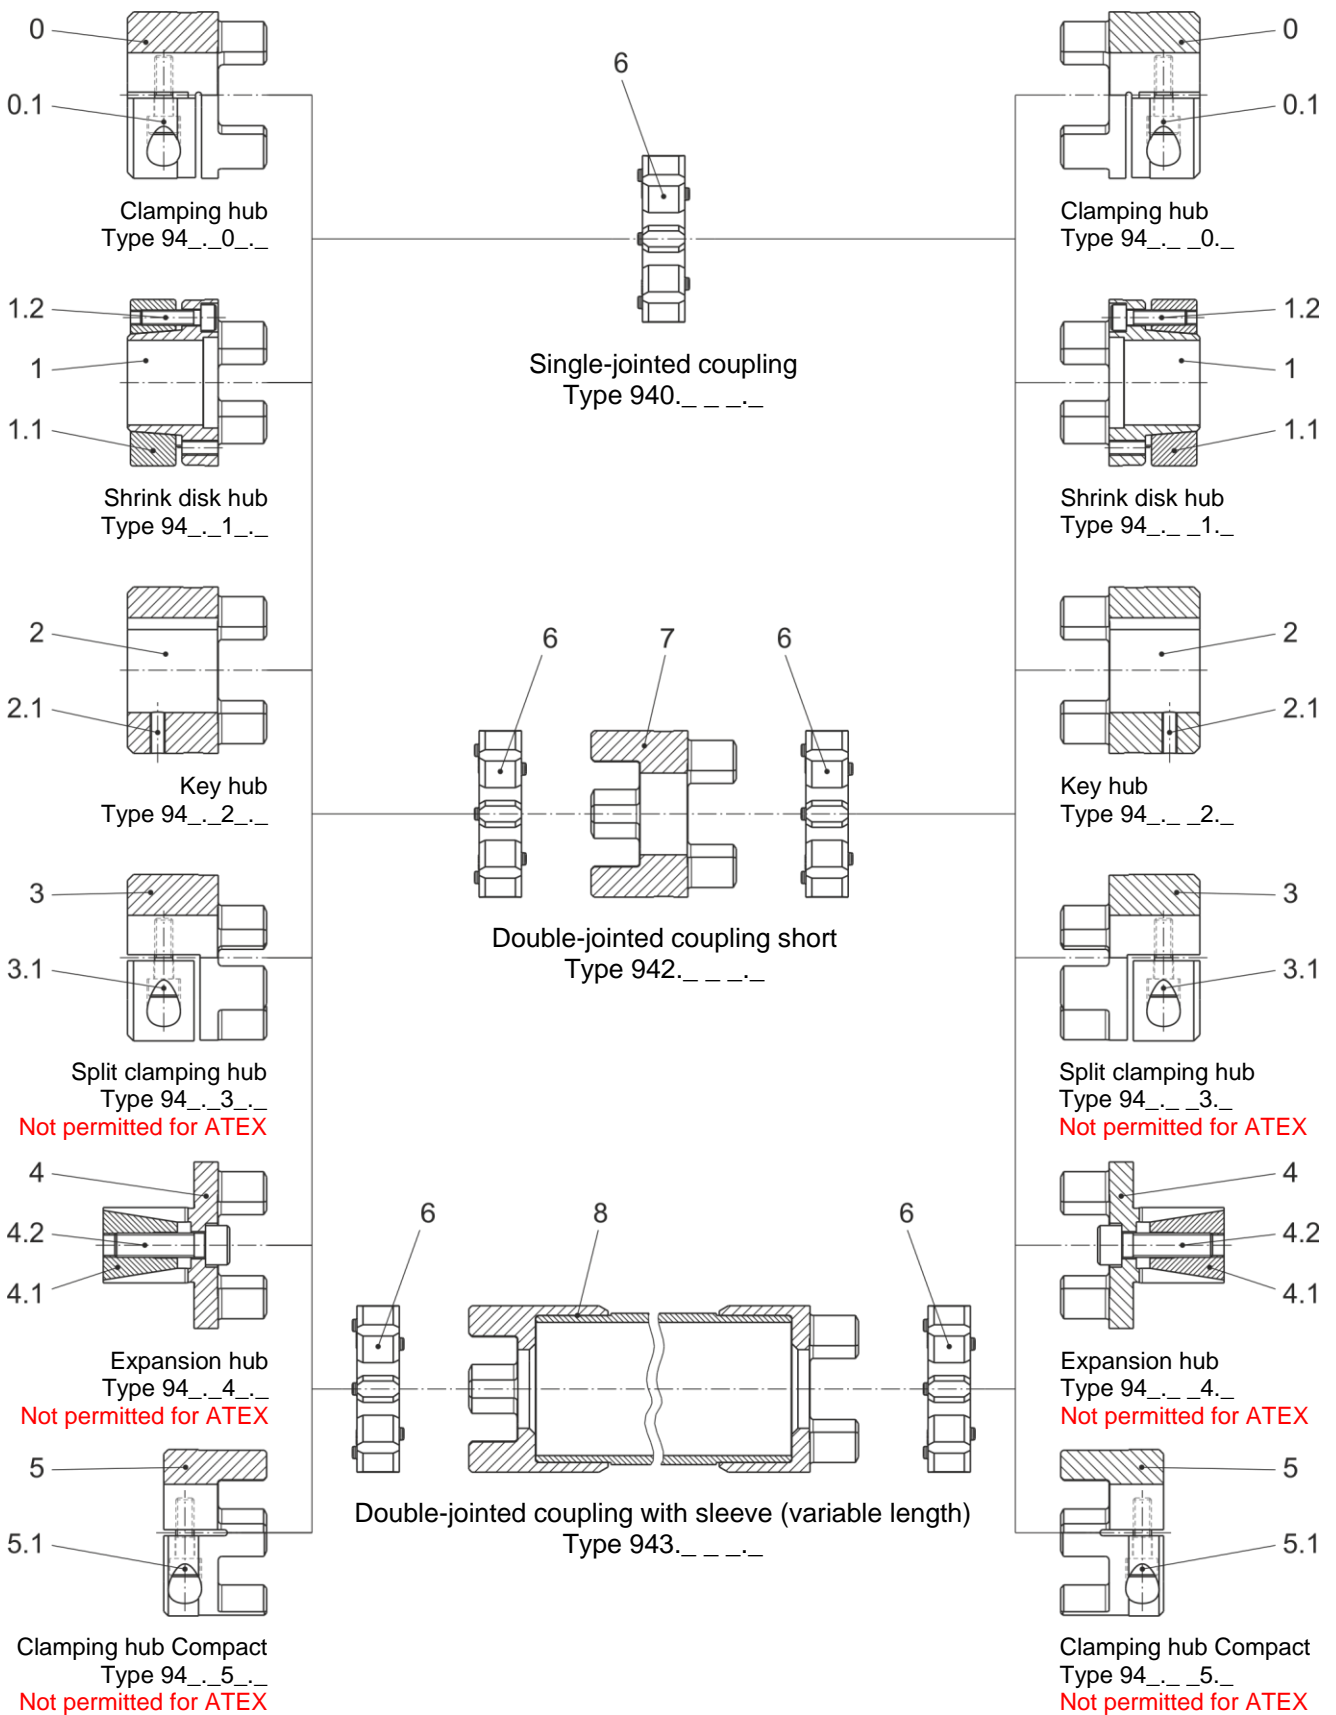

Fig. 1
The coupling consists of (see Fig. 1)
Table 1: Technical Data for Design with Clamping Hub (Item 0 / Fig. 1)
**Table 2: Technical Data for Design with Shrink Disk Hub (Item 1 / Fig. 1)